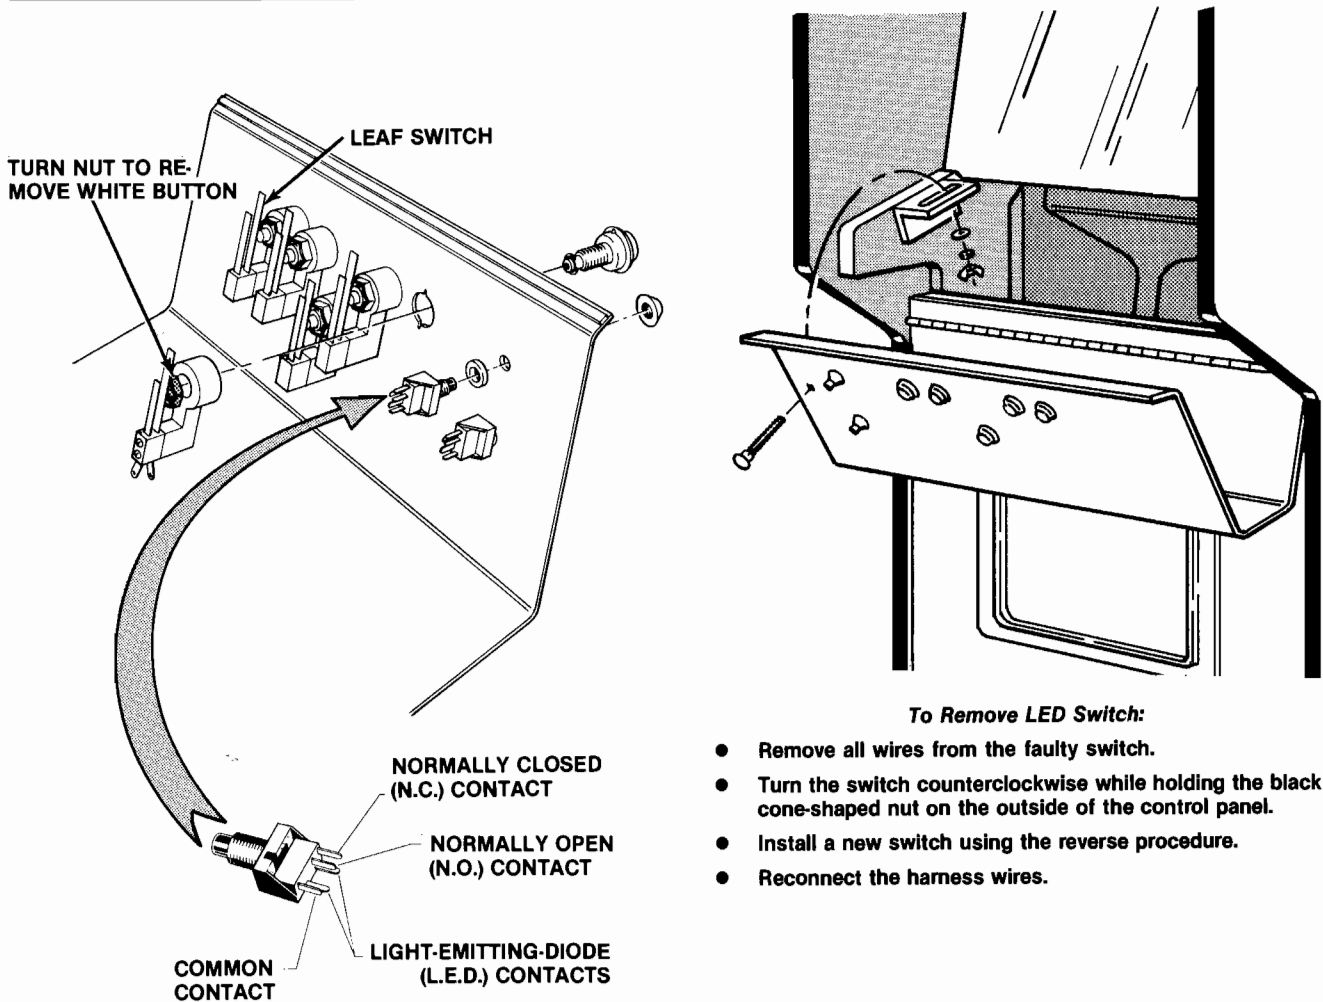

Figure 10 Opening the Control Panel and Replacing Switches
Reach up through the opening and remove both sets of carriage bolts, wing nuts, split lock washers, and large flat washers, located on the underside of the control panel (see Figure 10).
The light-emitting diode (LED) switches on the control panel have a very low failure rate. In case a switch should ever be suspect, first test it per the description that follows. To replace the switch, refer to Figure 10.
- Connect multimeter leads to appropriate LED switch contacts (see Figure 10 for designation of switch contacts and meter lead placement).
To replace any of the five leaf switches, remove both of its screws with a Phillips-head screwdriver—see Figure 10.